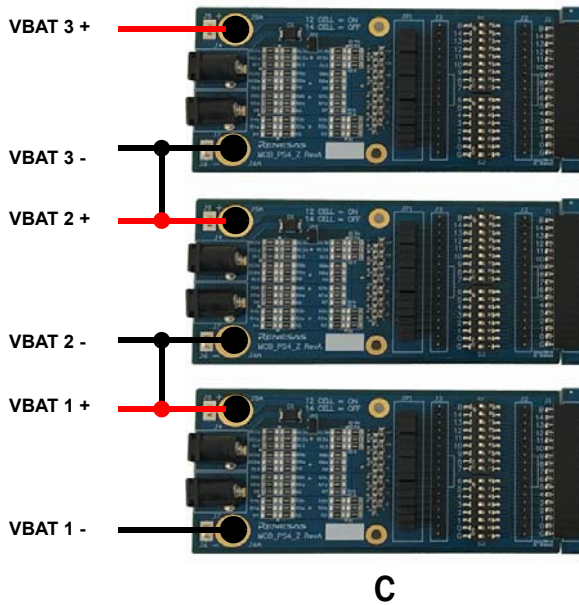

Figure 4. RTKA489204DK0000BU Battery Cell Emulation MCB-PS4-Z Alternative Connections
2. Connect the power supply to all MCB_PS4_Z boards in parallel, that is, all ground pins are tied together and all VBAT pins are tied together. See Figure 4 \(Option A\). This is not typical of a battery installation, where the ground of one board is the V_{BAT} of another, but it easily facilitates testing of the communication and allows a safer environment for initial testing. Alternatively, power supplies can be stacked to better represent an actual implementation. See Figure 4 \(Option B or C\).